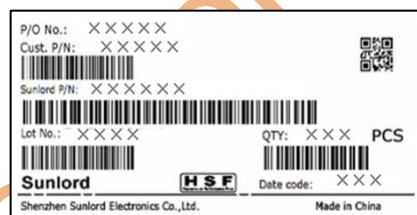

Fig.9.2.3-1
2) Marking on outer case (see Fig.9.2.3-2~4):